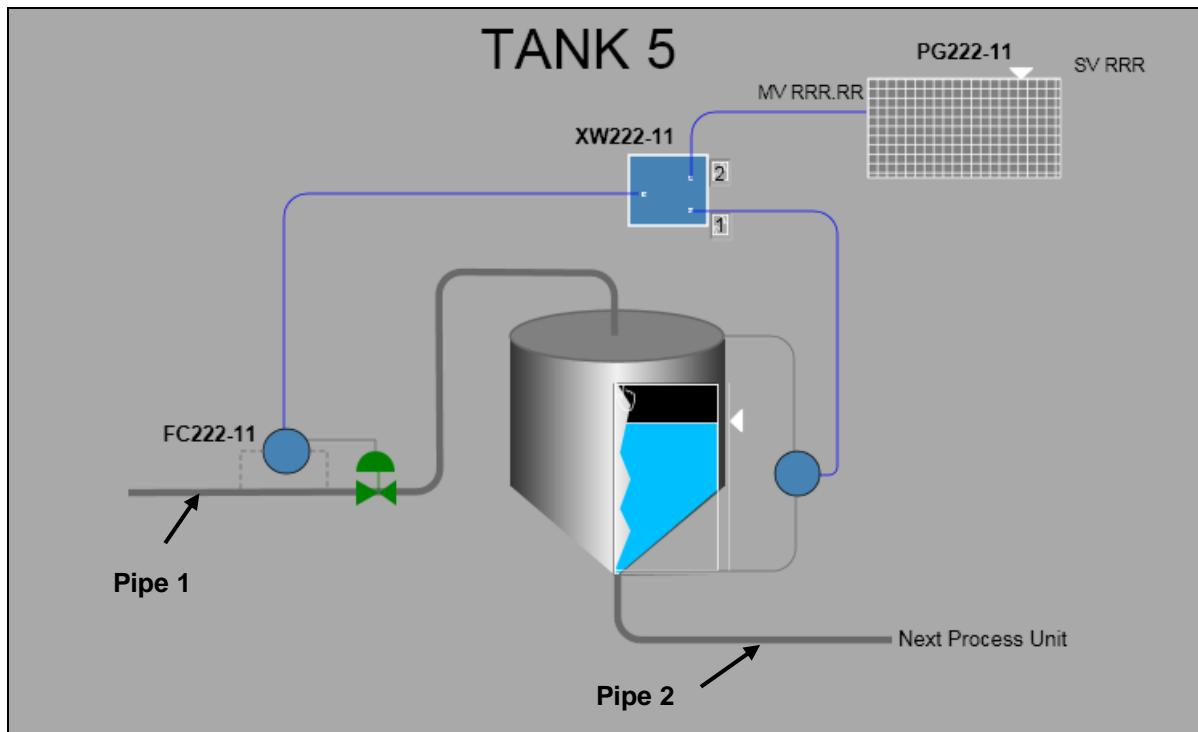

Figure 7.2
- 10.2. Using Figure 7.2 as a guide, click on the left side of the builder to start the pipe and hold down the left-hand mouse button and move the pointer across the graphic. Click where you want to make a change in the pipe’s direction; double-click to end with the poly-line at the top of the tank.